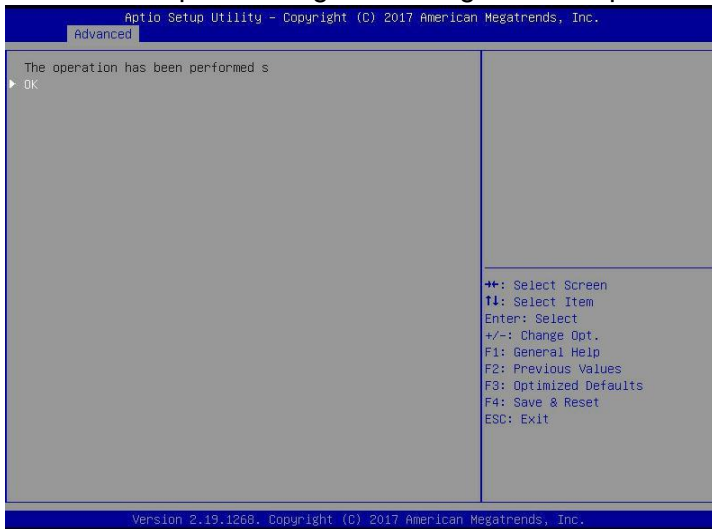

Figure 6-48
f) Enter the interface shown in Figure 6-48 to complete the configuration of the global hot spare disk.
✧ Figure 6-48 Complete configuration of global hot spare disk